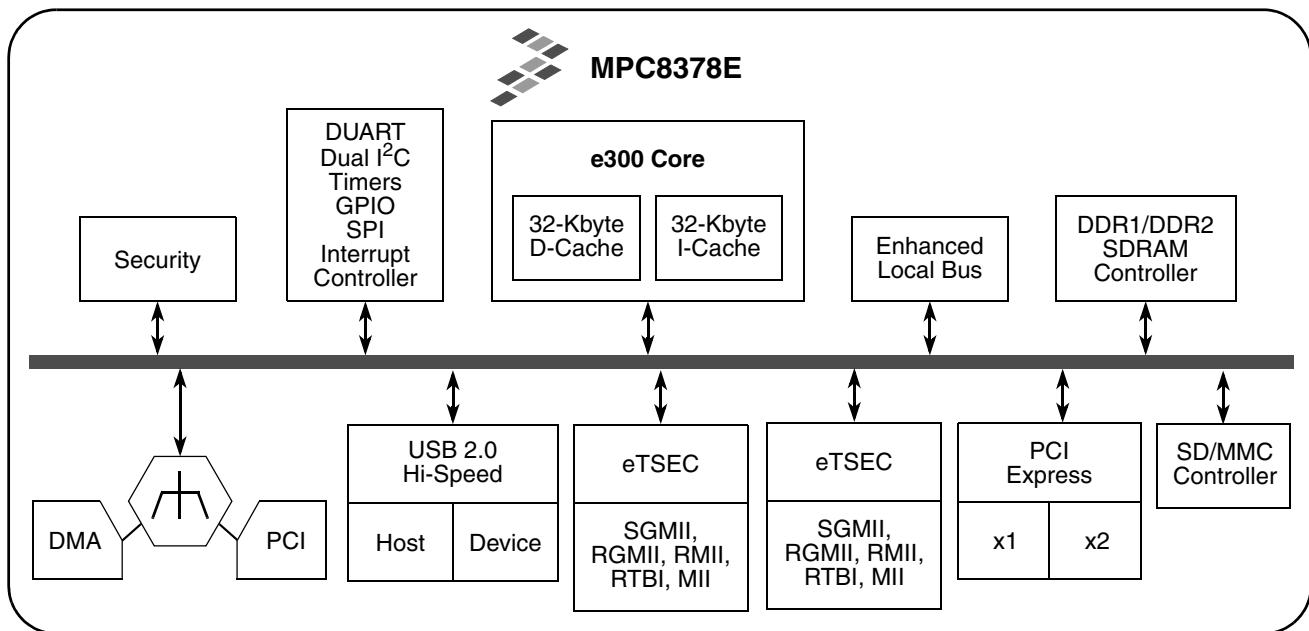

Figure 1. MPC8378E Block Diagram and Features
2.0 dual-role controller, a programmable interrupt controller, dual I²C controllers, a 4-channel DMA controller, an enhanced secured digital host controller, and a general-purpose I/O port. Figure 1 the block diagram of the MPC8378E.